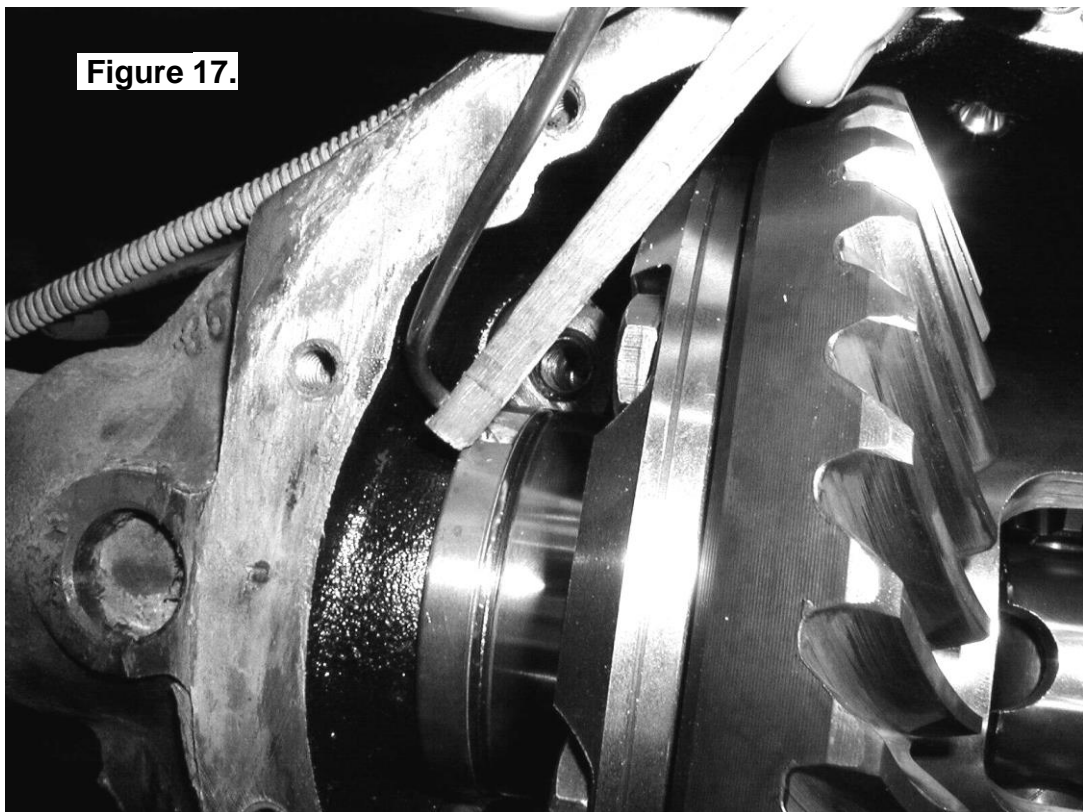

Figure 17.
- Using a soft instrument such as a piece of wood, bend the seal housing tube outward and away from the position of the bearing cap and into the drainage groove area. (Fig.17.)